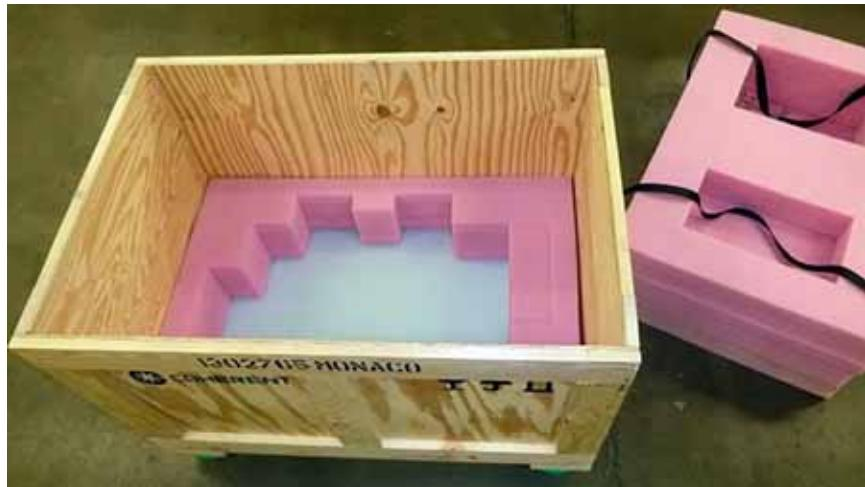

Figure C-4. Crate/Bottom Foam Seat
4. Remove clips and set aside. Remove crate top and all foam except the bottom foam seat assembly (see Figure C-4).